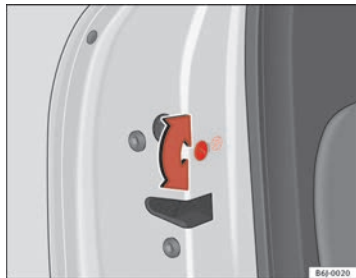

Fig. 42 Childproof lock on the left hand side door
- With the door open, rotate the groove in the door using the ignition key, anti-clockwise for the left hand side doors ⇒ fig. 42 and clockwise for the right hand side doors.
- With the door open, rotate the groove in the door using the ignition key, anti-clockwise for the right hand side doors and clockwise for the left hand side doors ⇒ fig. 42.